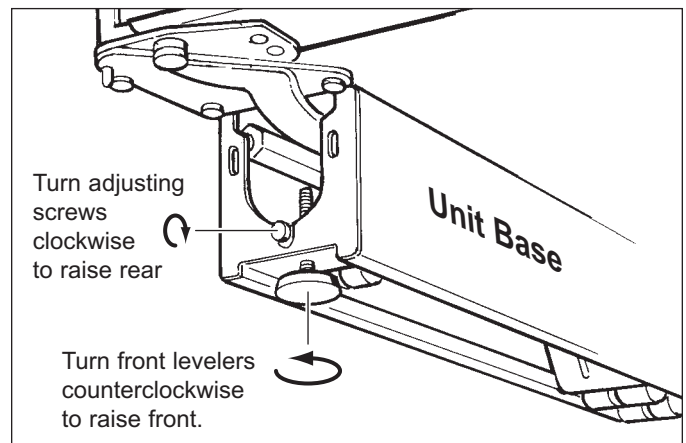

Figure 2-4. Unit Leveling
2. To raise unit front, turn front leveler legs counterclockwise, clockwise to lower (See Figure 2-4).
3. At front of unit base is an adjusting screw that reaches to rear leveler/roller assembly. To raise unit rear, use 5/16" socket wrench to turn adjusting screw clockwise to raise, counterclockwise to lower (See Figure 2-4).